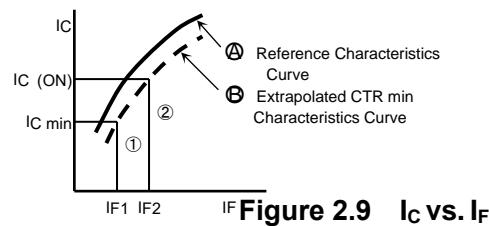
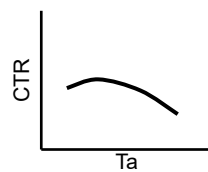
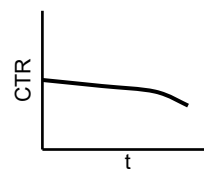

Figure 2.9 I_C vs. I_F
Figure 2.10 CTR vs. T_a
Figure 2.11 CTR vs. t
The characteristic curves of I_C vs. I_F , CTR vs. T_a , and CTR vs. t as shown in Figure 2.9, Figure 2.10 and Figure 2.11 respectively can be found in the product technical data sheet.
The transistor coupler CTR test is performed at the specific point ① in Figure 2.9. This point ① is not always the same as the actual operating point, so some compensation work is required to be done by the following procedure.
I_{F2} indicates the minimum input current at $T_a = 25^\circ\text{C}$ and operating time $t = 0$ hour. When considering the relationship between CTR and T_a (Figure 2.10), as well as CTR degradation (Figure 2.11), the minimum input current I_{IN} has to conform to the following formula.;